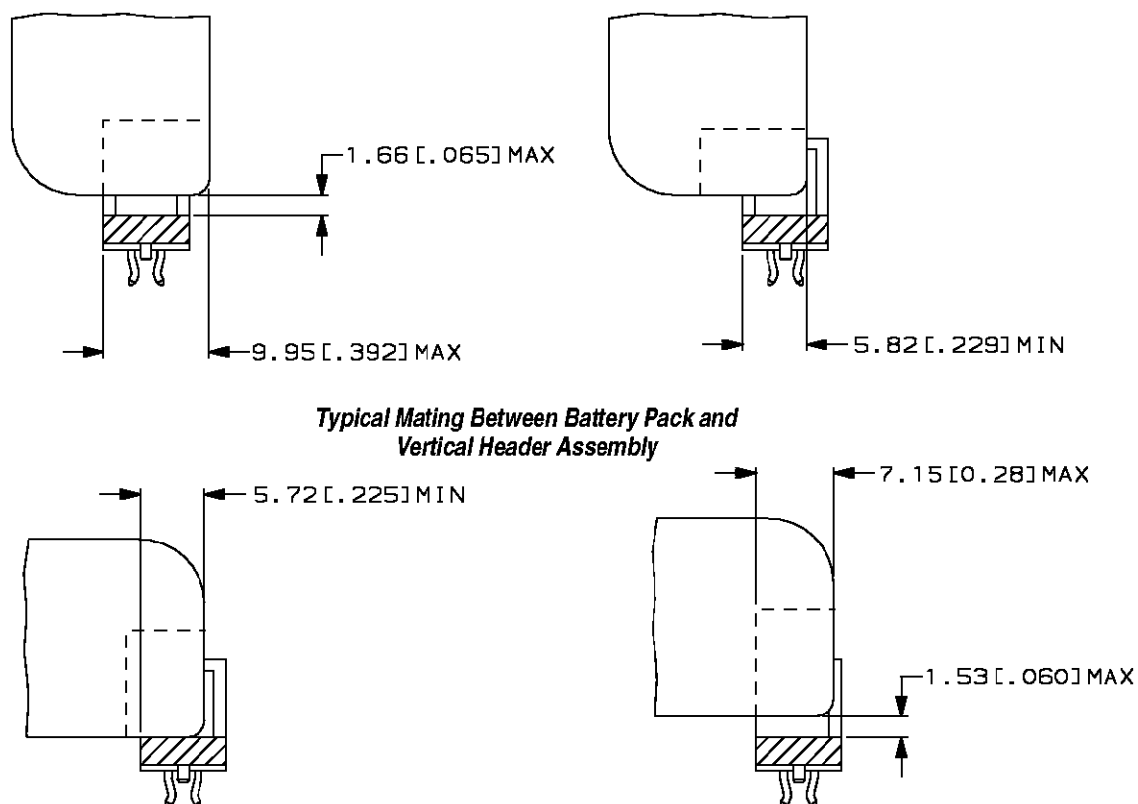

Figure 5
- Changed dimension in Figure 5 from 5.72 [.225] MAX to 5.72 [.225] MIN